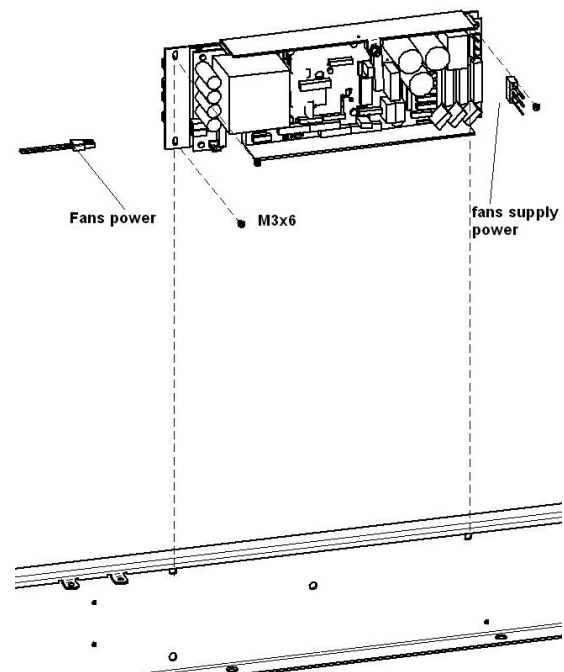

Figure 3.13. Disassembly of the fan power supply unit
- 1) Place the new fans supply power unit in the side of the chassis (figure 3.13)